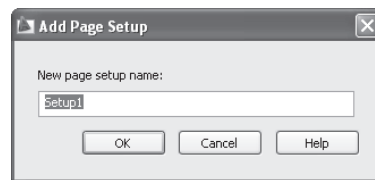

Figure 12.7
2. In the Add Page Setup dialog box, you can enter a name for your setup, or you can just accept the default name offered by AutoCAD (see Figure 12.7). Click OK to return to the Plot dialog box.